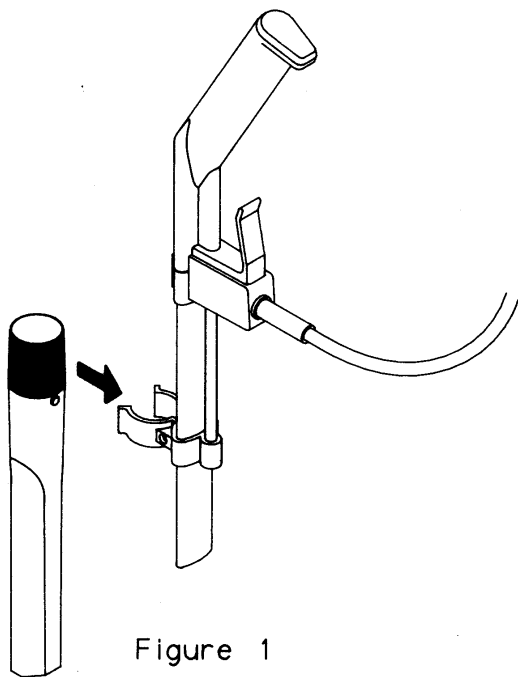

Figure 1
### 3. Brush Adjustment (3) / Electronic Control (Figure 1)
Tools should be installed as shown in Figure 1. The smaller lower section of the tools should be snapped into the retainers.